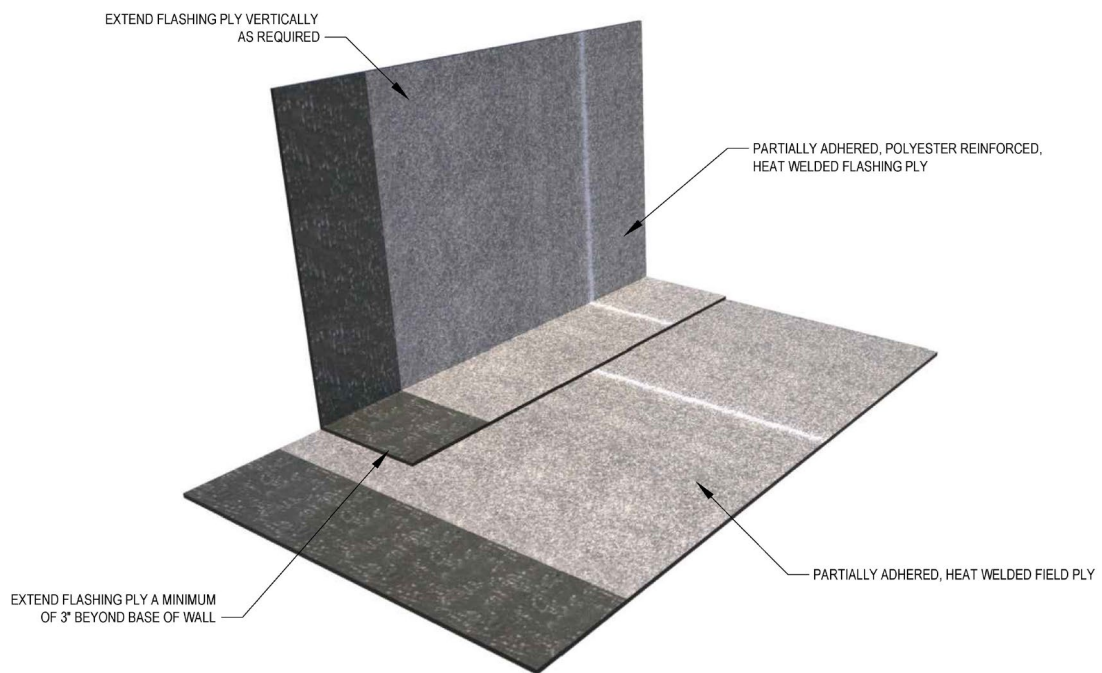

Figure 3.1.2b Partially Adhered, Heat Welded Vapor Retarder Flashing at Wall/Curb Without Cant
- Flashing ply: Heat welded, polyester reinforced. Refer to Figure 3.1.2b.